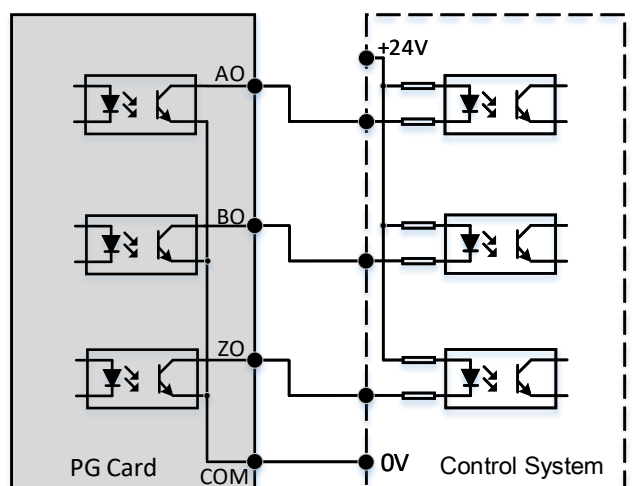

Figure 9 NPN pulse divider
- 6、 The open collector pulse frequency division output is connected to AO, BO, ZO, 0V and COM, as shown in **Figure 9**